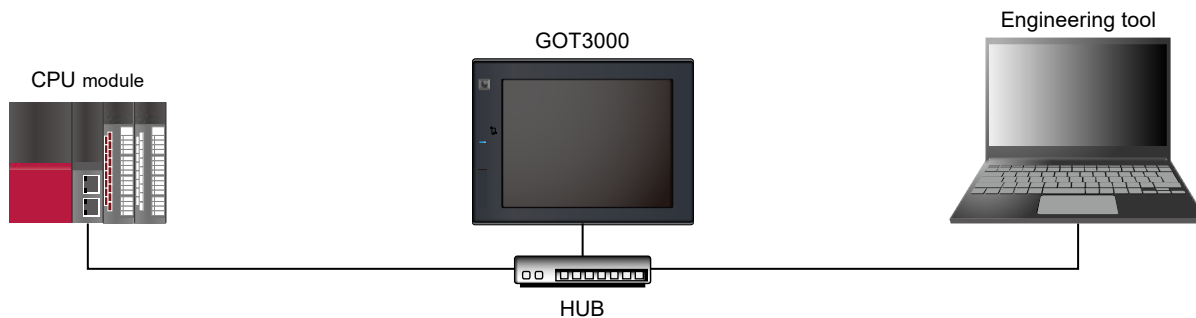
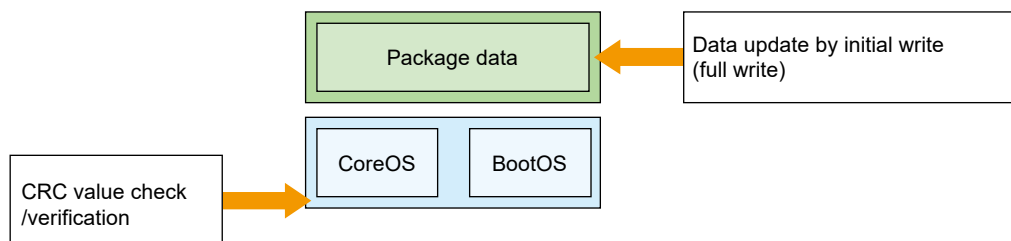
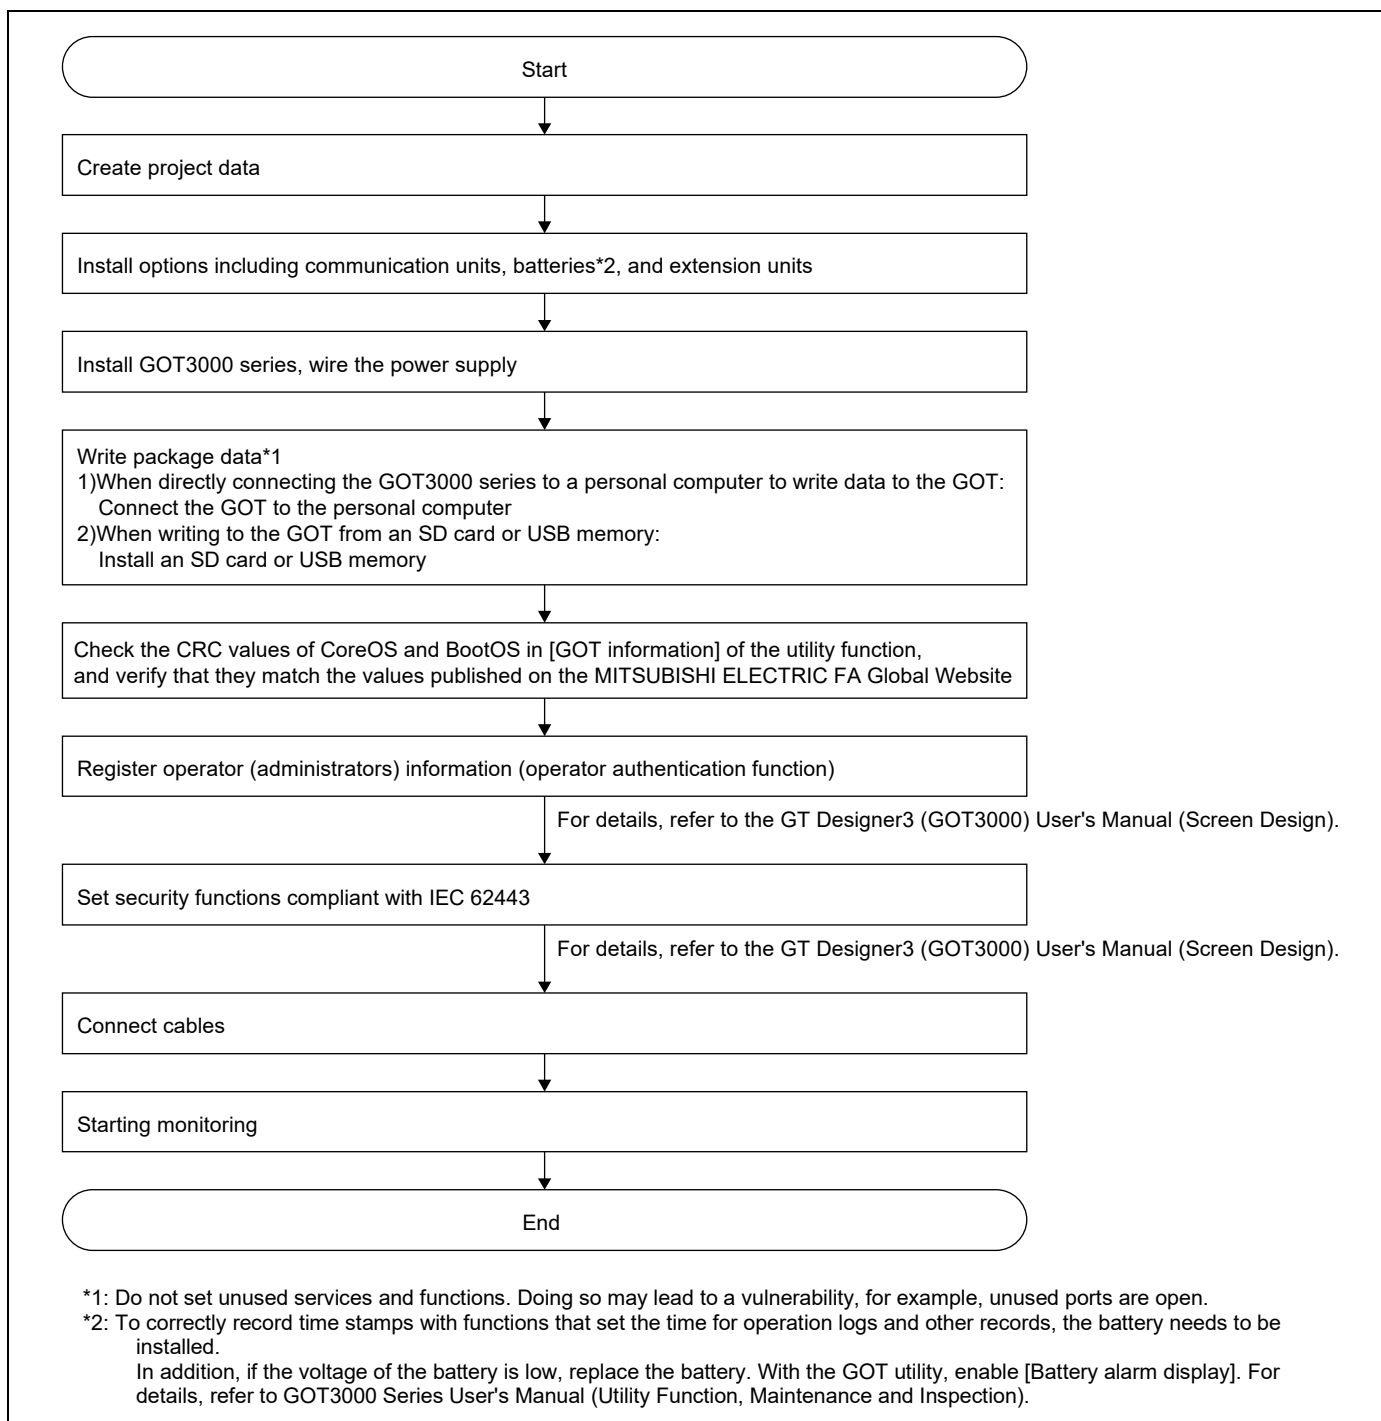

Figure 7 System configuration example
Figure 8 Internal data on the GOT3000 series at the time of factory shipment.
Figure 9 Procedure before operation
In a system using the GOT3000 series (Figure 7), it is recommended to operate the GOT3000 series according to the procedure shown in Figure 9 to ensure compliance with IEC62443-4-2 (with each security function set). Following the procedure allows the GOT3000 series to start with its internal data in a secure state. (Figure 8)
- To use the GOT3000 series in compliance with IEC 62443-4-2, perform necessary security functions at each stage of installation, operation, maintenance, and disposal of the GOT3000 series according to the procedure shown in Figure 9.